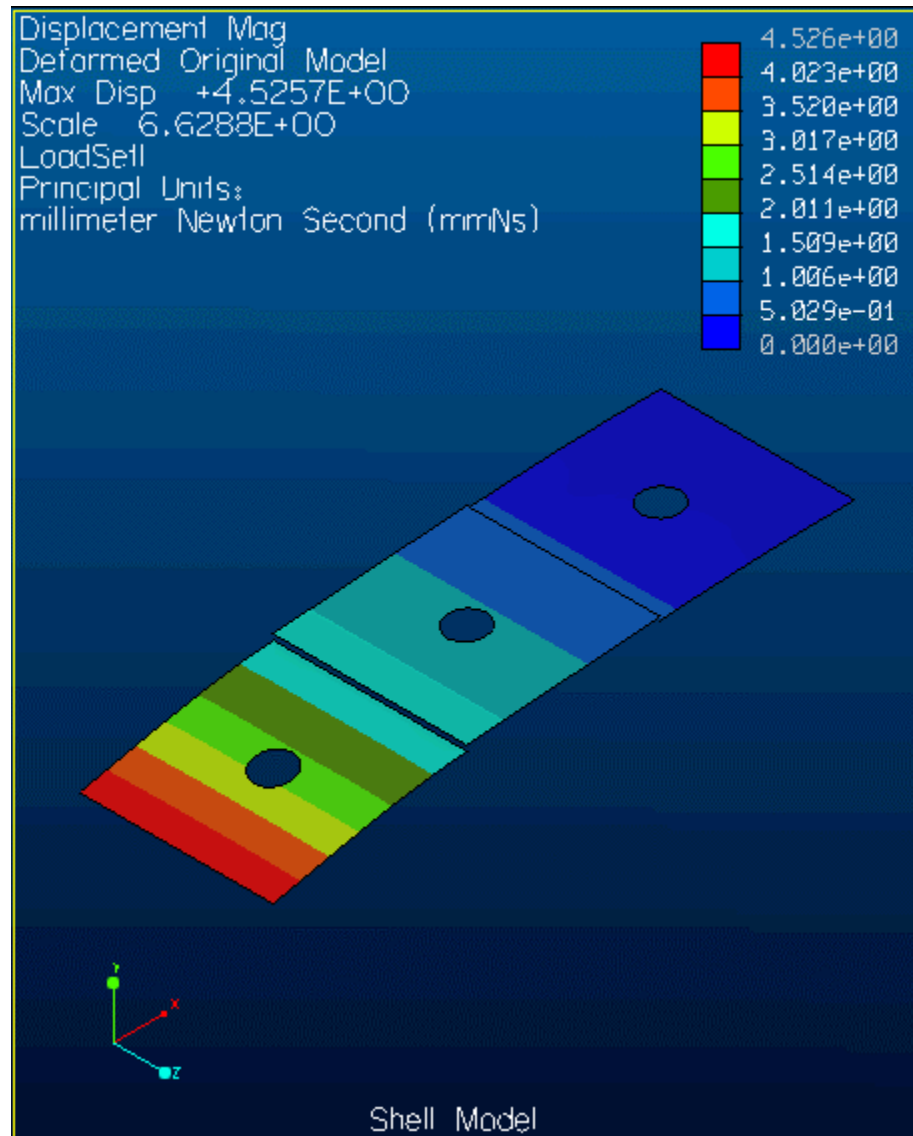
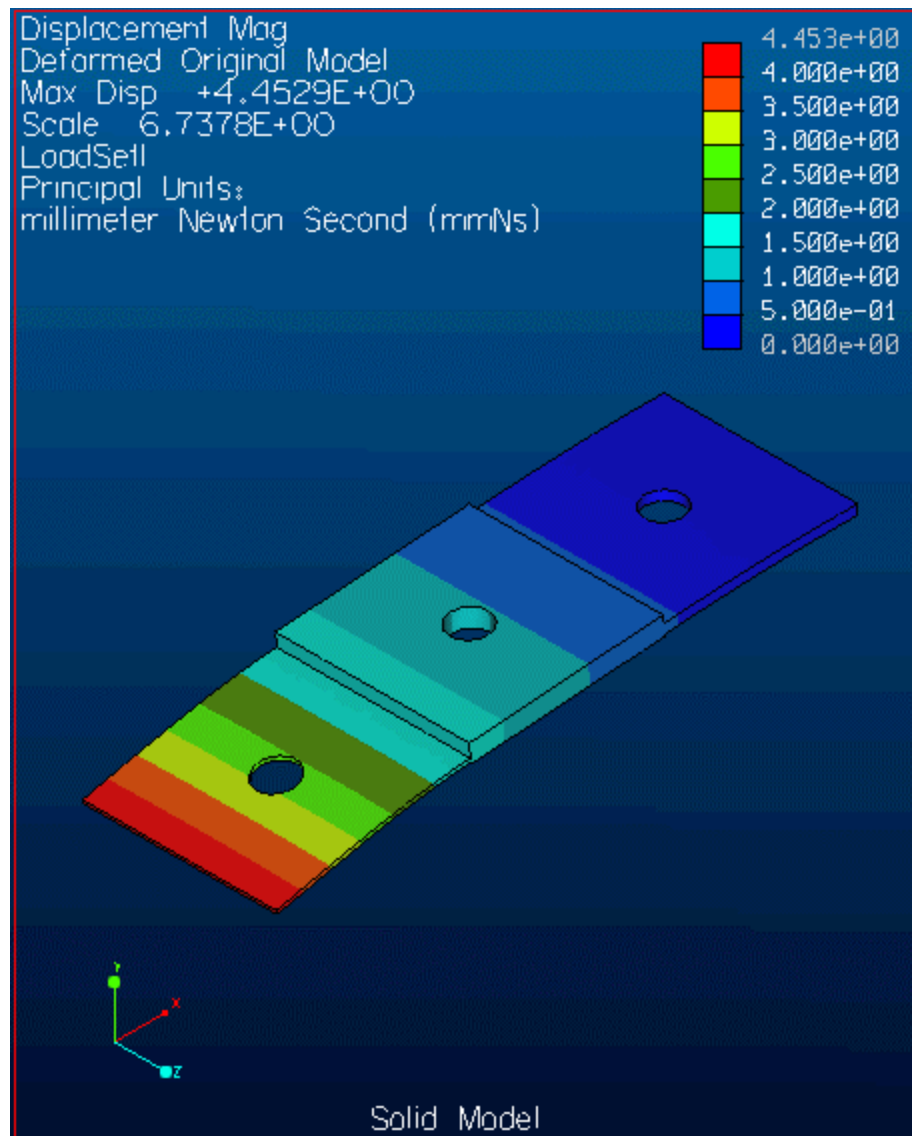

Figure 10
Figure 11
5. The fringe plots below shows a comparison between the maximum displacements for the shell-compressed model with Rigid Connections, Figure 10, and the corresponding solid model for a Single Pass Static analysis (SPA), Figure 11. The results are almost identical, as expected for this type of model where the Shell Idealization is a good approximation. (The thickness of a body modeled with one or more shells should be significantly smaller than the length of any of the body's other dimensions and radii of curvature.)